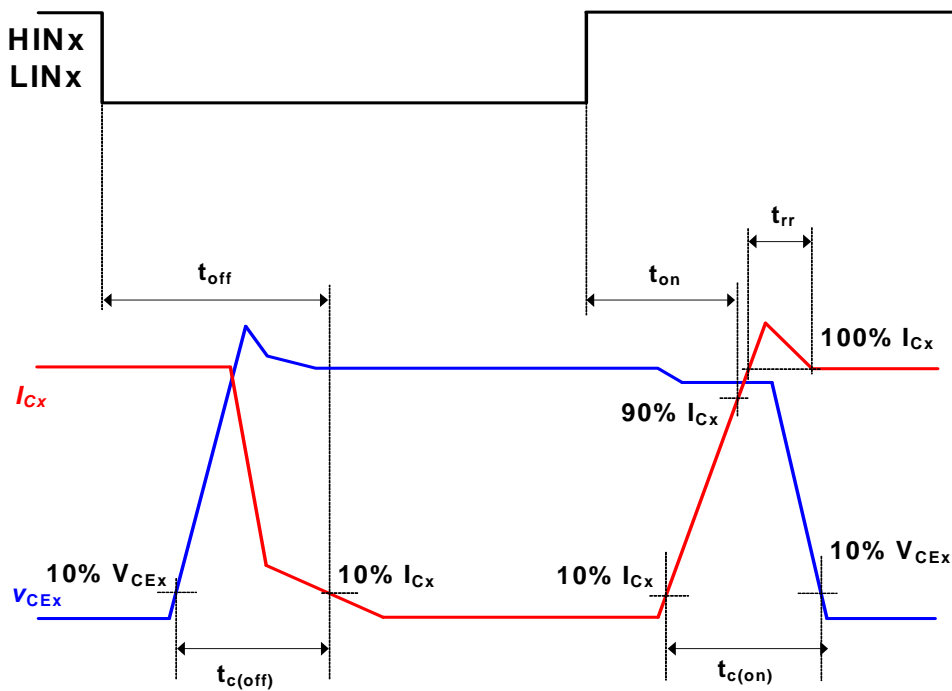

Figure 4. Switching Time Definition
5. t_{ON} and t_{OFF} include the propagation delay of the internal drive IC. $t_{C(ON)}$ and $t_{C(OFF)}$ are the switching time of IGBT itself under the given gate driving condition internally. For the detailed information, please see Figure 4.